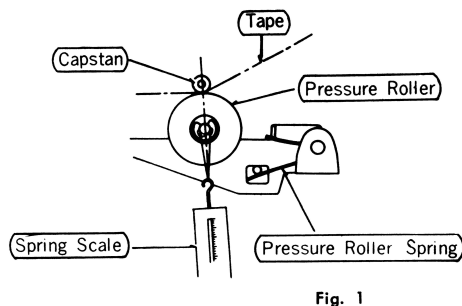

Fig. 1
Measurement: Refer to Fig. 1.
- Set the unit to the Playback mode, hang a Spring Scale in the linear direction of the Capstan Shaft and the Pressure Roller Shaft as shown in Fig. 1, gradually increase the force, and when the Tape stops, read the measure of the Spring Scale.